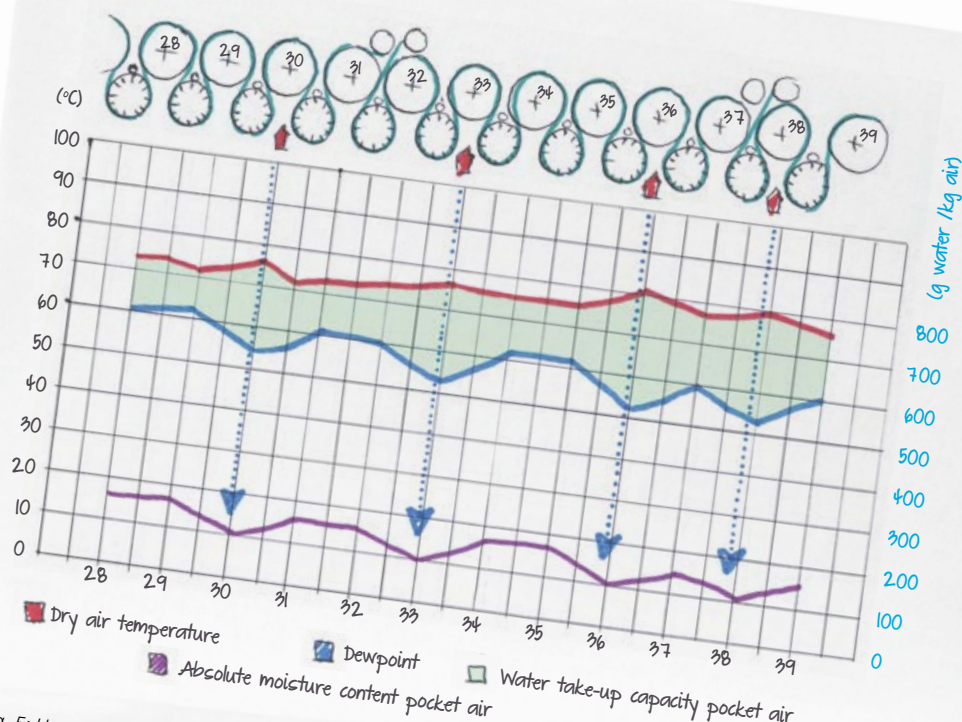

Fig. 5: Uneven pocket ventilation = uneven moisture removal
A customer sent for Georgi and myself in order to measure and evaluate the status of his pocket ventilation. Fig. 5 shows the TASK log including all relevant parameters. On this paper machine blow boxes were installed only in the pockets under cylinders 30, 33, 36, and 38. This gave an uneven result in terms of ventilation: In places where the pockets are ventilated **the absolute**
**moisture is lowered by 38%** – a significant reduction. Looked at the other way round: The pockets that are not ventilated contain much more moisture. In conclusion: the blow boxes make it possible for **more water to be absorbed and transported away in these pockets.** This is as obvious as it is important if we compare Fig. 5 with a different machine configuration.